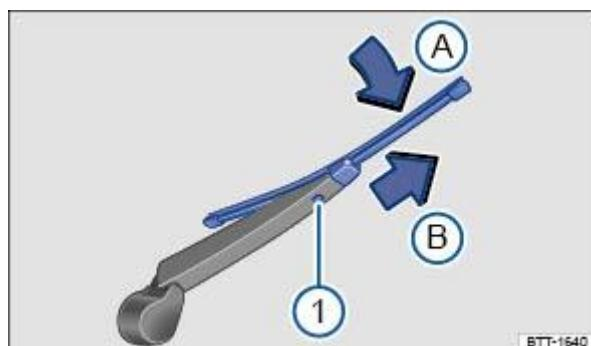

Fig. 165 Changing the rear wiper blade.
- ¶ Press and hold the release button ⇒ Fig. 165 ①.
- ¶ Tilt the wiper blade in the direction of the wiper arm ⇒ Fig. 165 (arrow ②) and pull it off in the direction of the arrow ③ at the same time. You may need to use some force to do this.
- ¶ Insert a new wiper blade with the same length and design onto the wiper arm in the opposite direction of the arrow. Push it on until it engages ⇒ Fig. 165 ④. The wiper blade must be in the folded back position ⇒ Fig. 165 (arrow ②).